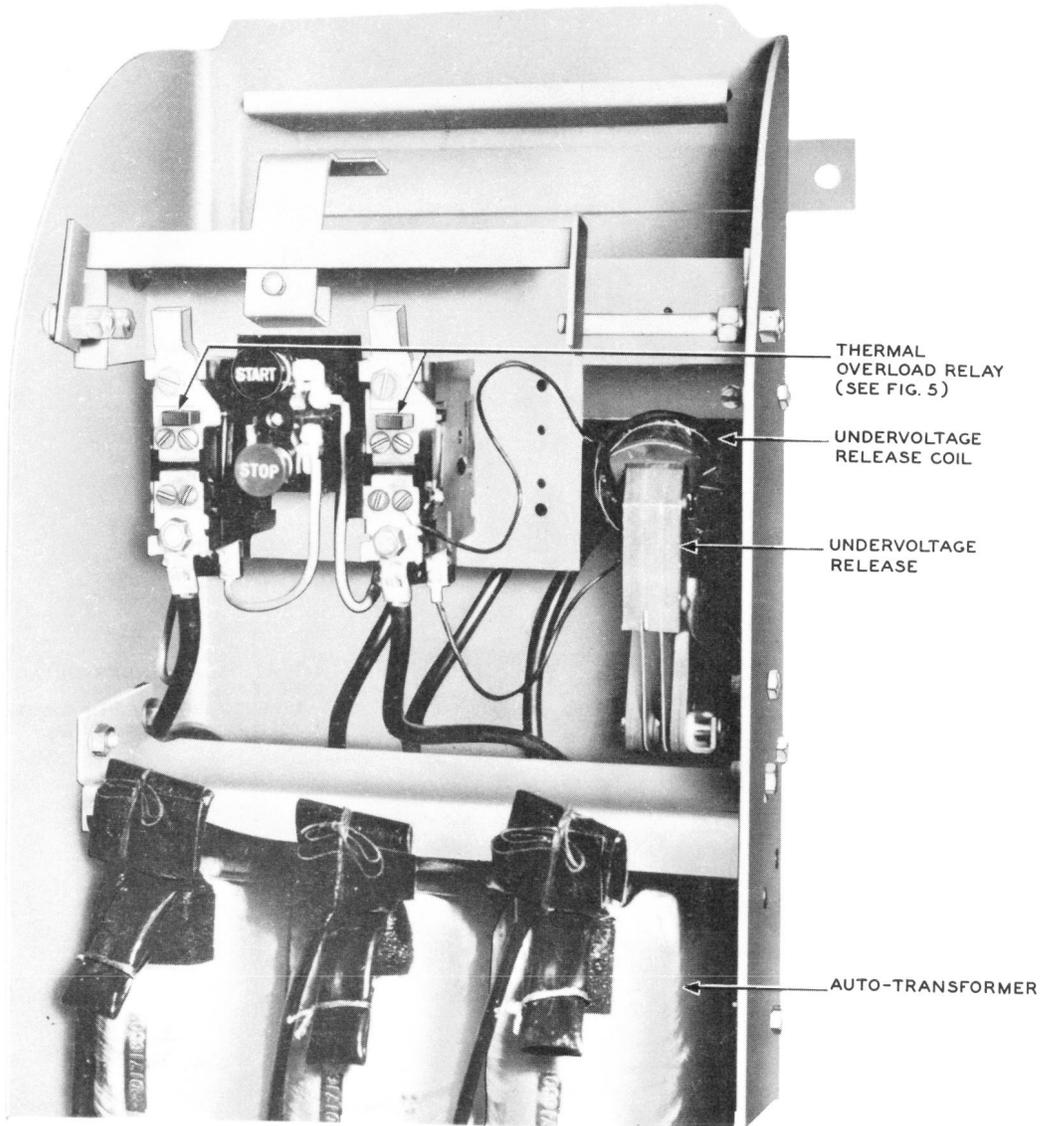

Fig. 3 - KS-5140-01 Manual-type AC Starter - Form E
3.19 To replace the autotransformer on the form E starter shown in Fig. 3, be sure the ac service is disconnected ahead of the starter. Remove the box cover. After noting their positions, disconnect the autotransformer leads from the contactor. Remove the screws, nuts, and washers used to fasten the top core support to the box and remove the support. As these autotransformers are heavy, it may be necessary to use suitable tackle to lift the autotransformer off the switch frame and autotransformer support and out of the box. Replace with a new transformer and reassemble in the reverse order. (See note in 3.21.)
3.22 To replace the undervoltage release coil on the undervoltage release shown in Fig. 3 and 4, disconnect the coil leads after noting their positions. Remove the armature hinge pin after removing a cotter pin and remove the armature, thus permitting access to the coil. Remove the pole shaver and the insulation washer and slide the coil off the magnet core. Replace with a new coil and reassemble in the reverse order. The undervoltage release coil is identified by the catalogue number stamped on the coil.